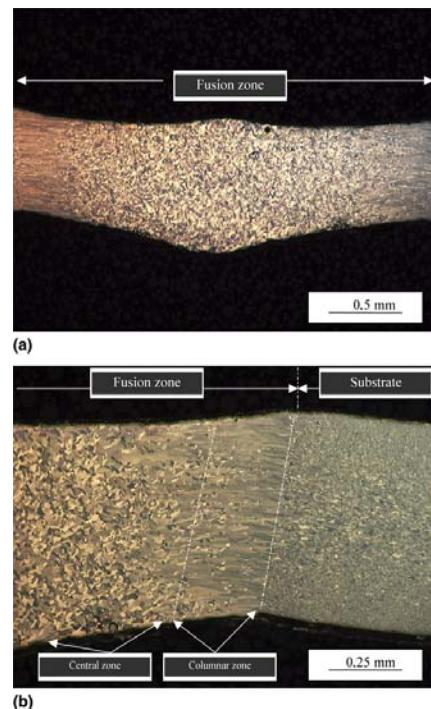

Figure 3 / Rajah 3
At the same time, the sample was also cut at seam area in order to see the welded area as shown in Figure 3.
- [b] What is a suitable visual inspection equipment to see the result in Figure 3.
- [c] Based on results in Figure 3, analyze what are the factors that contributed to the failure of the welded tube?